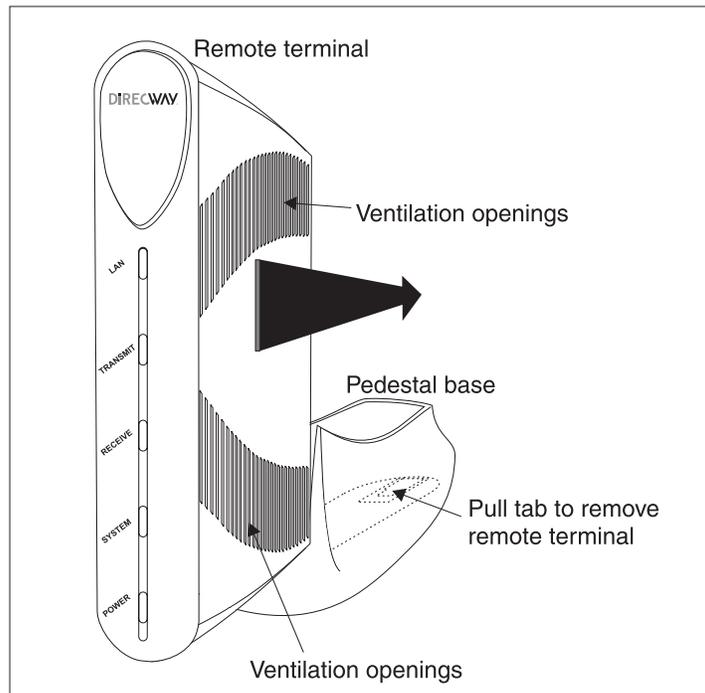

Figure 9: Attaching the remote terminal to the pedestal base
Refer to Figure 9 and follow the steps below to attach the remote terminal to the pedestal base.
1. Position the remote terminal and pedestal base as shown in Figure 9.
2. Align the bottom set of ventilation openings on the remote terminal with the guides on the pedestal base. See Figure 9.
3. Gently slide the remote terminal into the pedestal base until the remote terminal locks into position. See Figure 9.
Note: If you need to remove the remote terminal from the pedestal base, pull up and back on the tab on the back of the base. You can then slide the base off the remote terminal. See Figure 9.